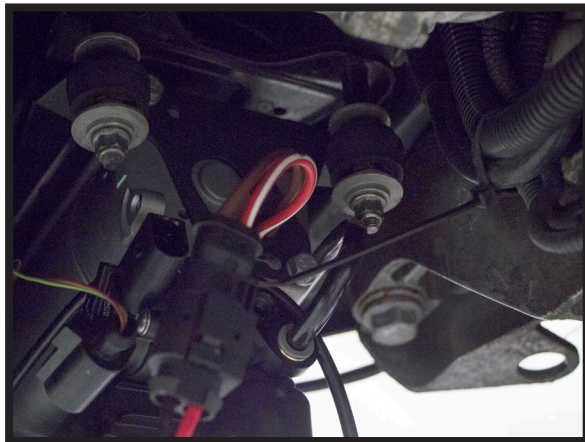

FIGURE 9
6. LOCATE AND REMOVE THE MOUNTING NUTS AND HARDWARE TO REMOVE THE COMPRESSOR FROM THE VEHICLE. (FIGURE 9, 10, 11)